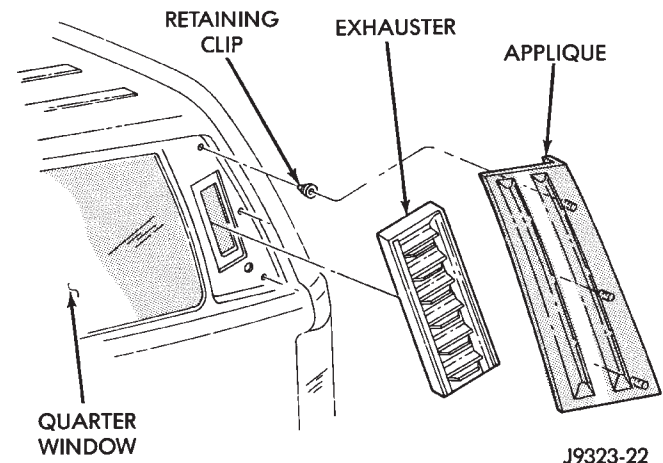

Fig. 73 Quarter Window Applique & AirExhauster
- (1) Using a trim stick, carefully pry applique from panel (Fig. 73).
- (2) Carefully pry air exhauster from upper quarter panel using a flat blade screwdriver.